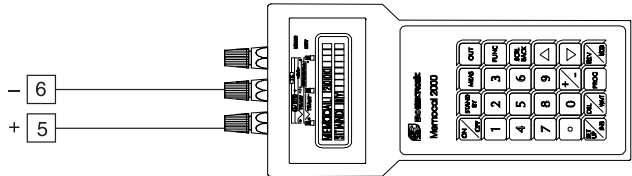

Fig.12
- Connect the instrument under test to the calibrator as shown in Fig. 12.